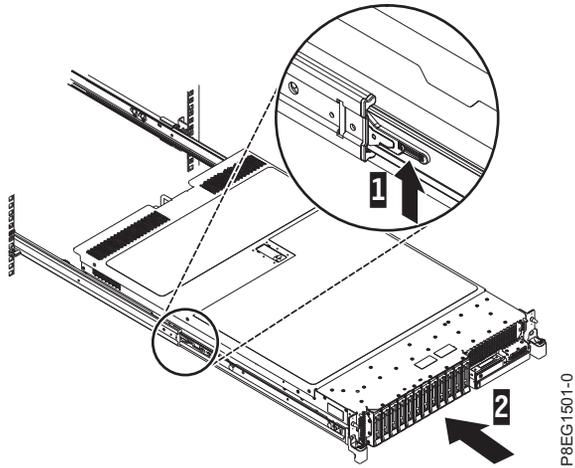

Figure 7. Lifting the release latches and pushing the server into the rack
- Lift the blue release latches (1) on the slide rails and push the server (2) all the way into the rack until it clicks into place. For details, see Figure 7 on page 7.